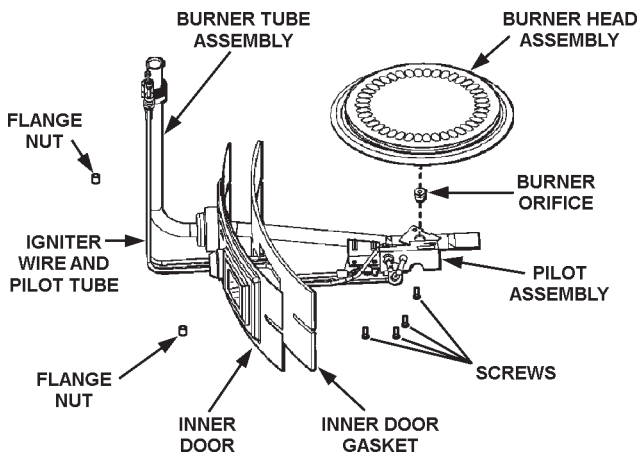

FIGURE 13.
- Remove flange nuts holding inner door in place with 3/8" nut driver, see Figure 13.